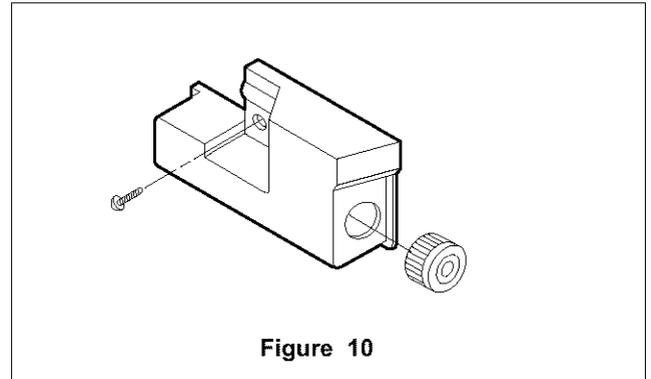

Figure 10
4. Pull out thermostat in the thermostat cover, and disconnect lead wires. (Figure 10)